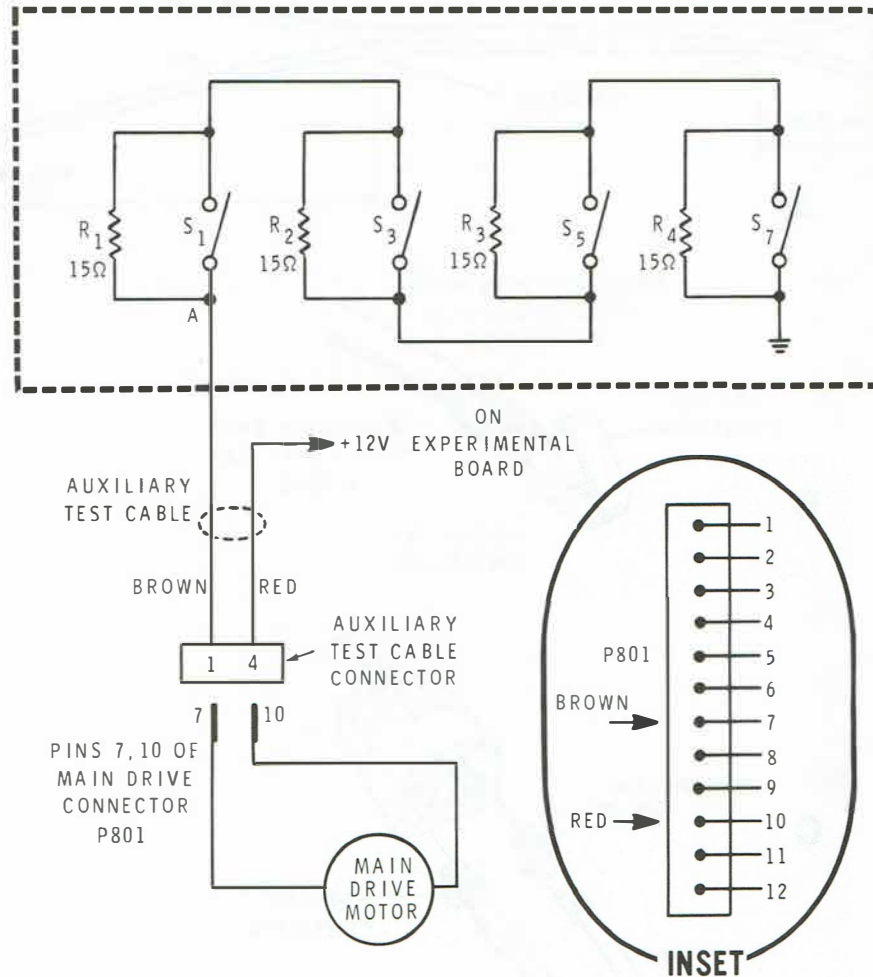

Figure E4-2
3. Refer to Figure E4-2 and, using the four 15 ohm 1-watt resistors and the 8-section DIP switch provided, construct the circuit shown inside the broken lines on the Robot Trainer experimental board. **DO NOT CONNECT THE AUXILIARY TEST CABLE AT THIS TIME.** Ensure that DIP switches 1, 3, 5, and 7 are in the ON position.
8. Refer to the Inset of P801 in Figure E4-2 and connect the auxiliary test cable so that the brown wire mates with pin 7 and the red wire mates with pin 10 of P801 on the Robot Trainer.